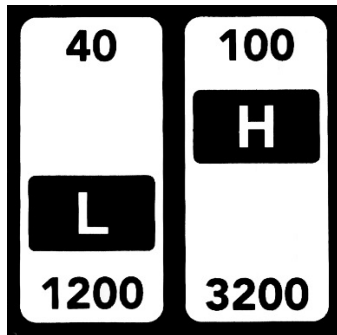

Figure 7-14
4. There should be sufficient slack in the belt to reposition it to the other steps on the sheaves. The label on access door shows required belt position (also shown in Figure 7-14).
5. Loosen pivot lock handle (A) and lower motor to tension belt. Be sure that Poly-V grooves of belt seat properly in corresponding groove of sheave. Do not over-tension; a very light pressure on tension handle (B) is adequate to prevent belt slippage.
6. Tighten pivot lock handle (A) and close access door.